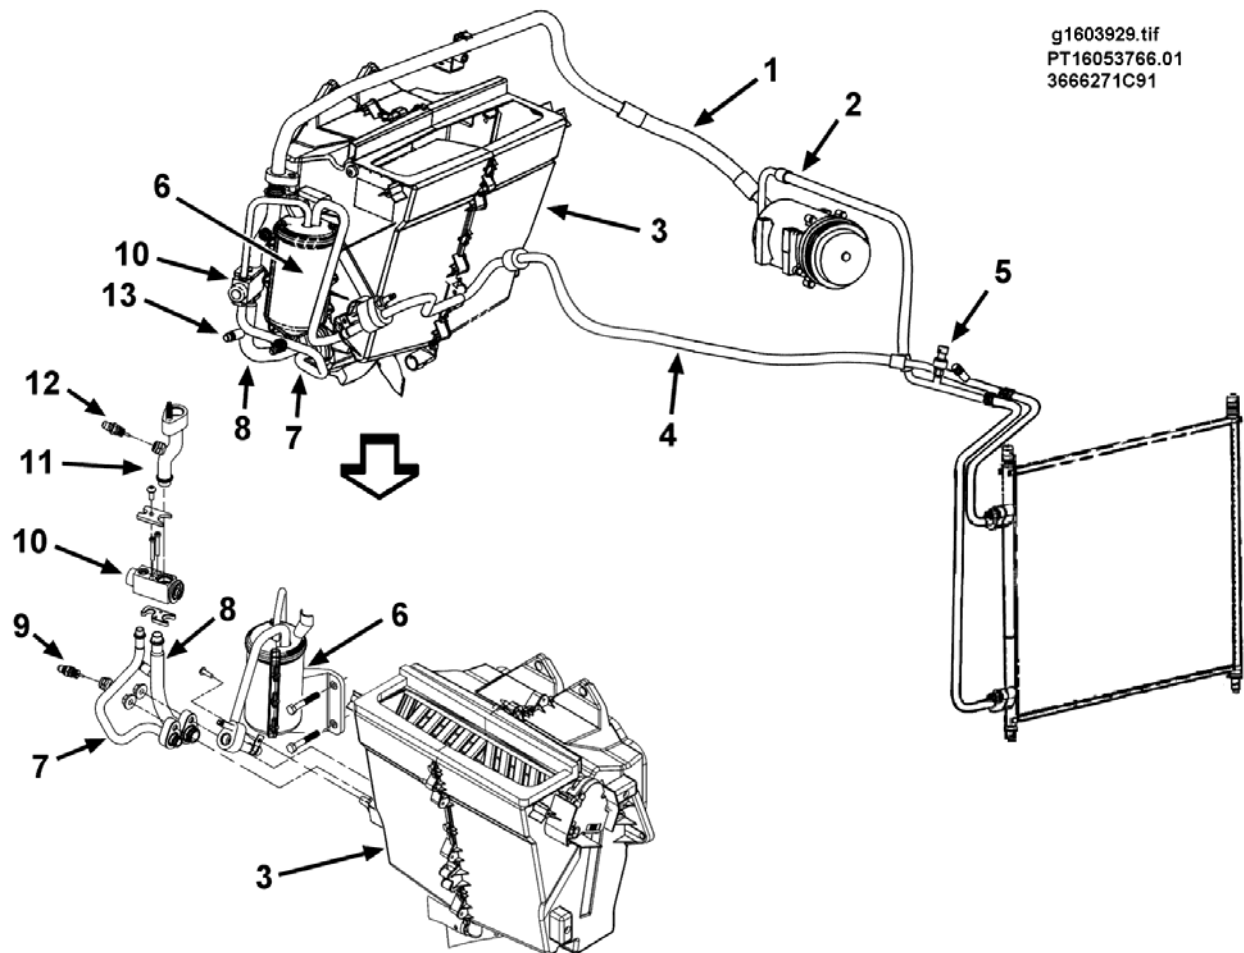

Figure 29 A/C System Components and Refrigerant Lines
The three A/C refrigerant hoses/lines (1, 2, and 4, Figure 29) are connected in the same way; however, the number of mounting straps and clamps may be different for each hose. Also, the routing of each hose varies for each vehicle model/engine combination.
NOTE – Refer to Figure 29 while performing the following Remove and Install procedures.
NOTE – When removing Condenser-to-Evaporator Hose (4, Figure 29) disconnect electrical connection to pressure transducer (5).
NOTE – Before installing a new Condenser-to-Evaporator line (4, Figure 29) it may be necessary to transfer pressure transducer (5) from the old line to the new line.
2. To allow movement of condenser-to-evaporator line (4, Figure 29), remove or loosen hose support clamps and/or strap locks used to secure line at evaporator housing (3).
3. Disconnect condenser-to-evaporator line (4) from filter-drier inlet line.
4. Remove screw securing filter-drier inlet line clamp to evaporator housing (3).
5. Remove T30 Torx head screw from locking plate on top of expansion valve (10).
7. While supporting filter-drier (6), remove two mounting bolts securing filter-drier to evaporator housing.
2. With a new lubricated O-ring on the filter-drier outlet tube, carefully insert tube into expansion valve (10, Figure 29) while securing filter-drier (6) to evaporator housing (3) with two mounting bolts. Tighten to 11.0 to 11.6 N.m (8.1 to 8.5 lbf-ft).
5. Using a new O-ring and C-plate connect condenser-to-evaporator line (4) to filter drier inlet tube. Tighten to 19,000 to 21,000 N.mm (170 to 190 lbf-in).
4. Lift output thermistor line (11, Figure 29) from top of expansion valve. If necessary loosen or remove cowl clamp(s) securing evaporator-to-compressor line (1) to allow removal of line from expansion valve. (This requires removal or raising of cab cowl tray.)
5. Insert outlet thermistor line (11, Figure 29) into top of expansion valve (10).
8. Insure that all clamps securing condenser-to-evaporator line (4) to evaporator housing (3) have been installed and tightened.
9. Install and/or tighten clamp(s) securing evaporator-to-compressor line (1) to cowl.